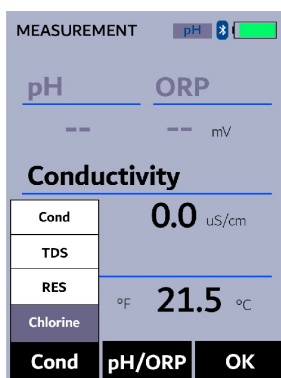

Figure 14. Highlight Chlorine measurement
2. Press **Cond** () as needed to highlight **Chlorine** in the selection menu (Figure 14).